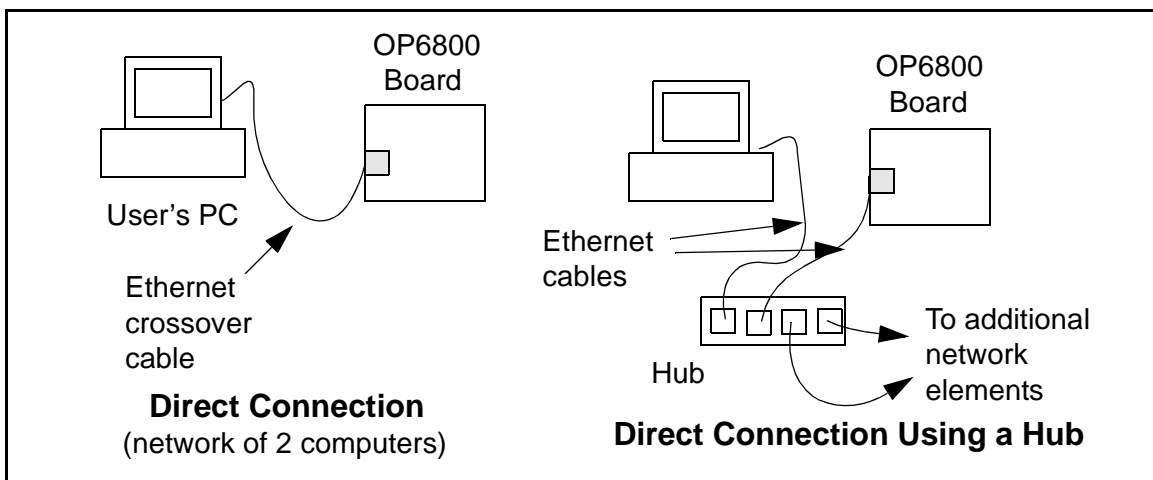

Figure 19. Ethernet Connections
- If you have an Ethernet connection, use a straight-through Ethernet cable to establish an Ethernet connection to the OP6800 from an Ethernet hub. These connections are shown in Figure 19.